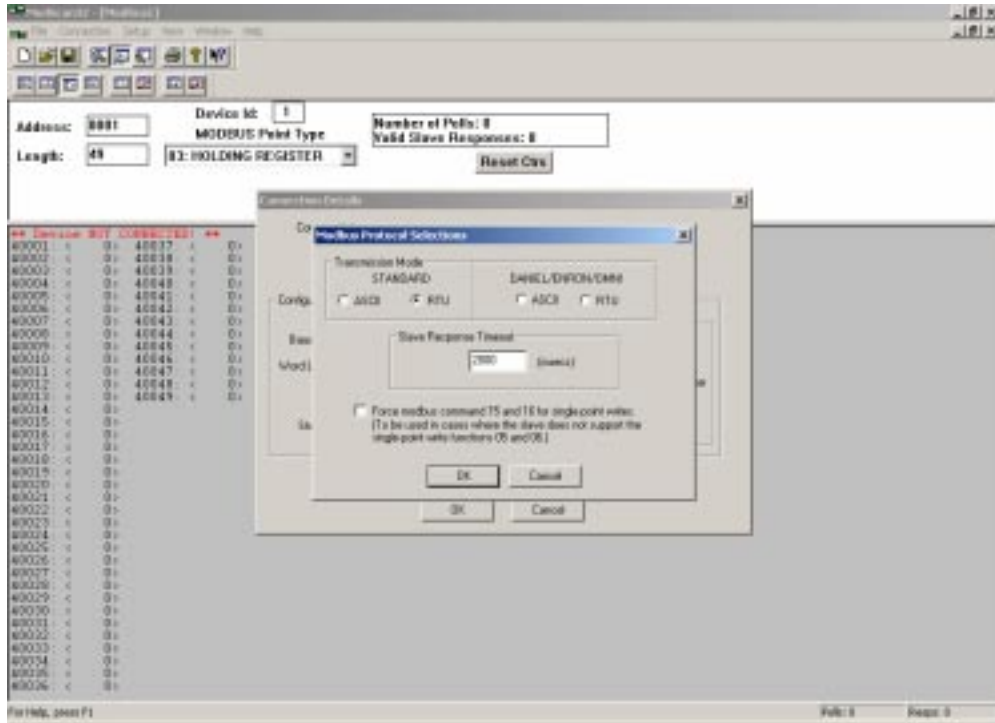

FIGURE 13. MODBUS PROTOCOL SELECTION DIALOG BOX
3. Click on the “Protocol Selections” button and change the Transmission Mode to “RTU” (see Figure 13). Click “OK.”